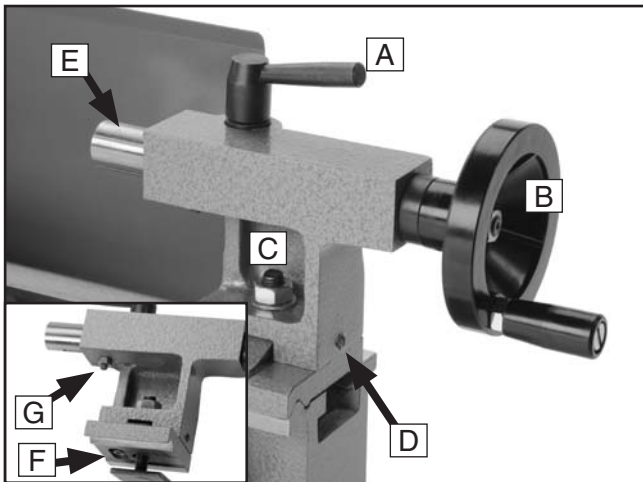

Figure 17. Tailstock controls.
Familiarize yourself with the tailstock components shown in **Figure 17**.
1. Using a 17mm wrench, loosen the tailstock lock nut shown in **Figure 17**.
Changing the tailstock offset is a common method for turning tapers. The offset cap screw is located under the tailstock and the tailstock must be removed from the bed for this adjustment. Therefore, precision tolerances for this type of work will require trial-and-error adjustments (**Figure 17**).